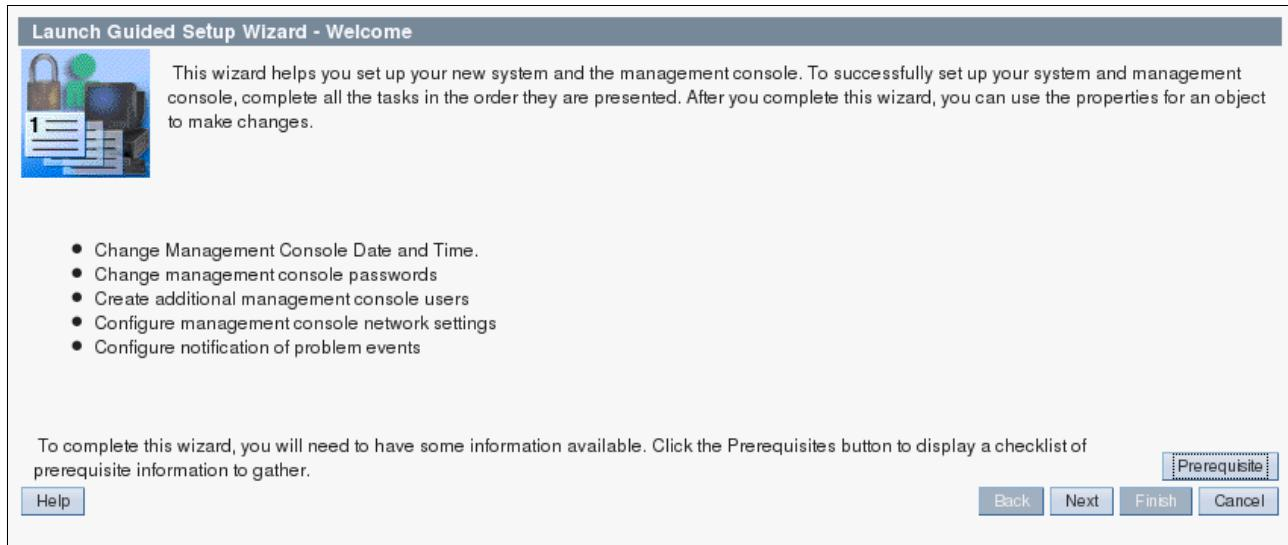

Figure 3-80 Setup wizard welcome
9. In the Guided Setup Wizard (Figure 3-80), click **Next**.